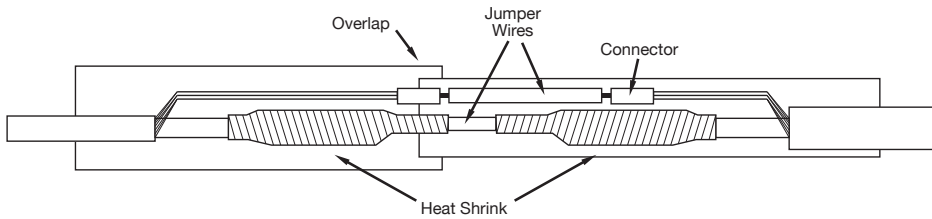

Figure 8
13. Position large shrink tube over entire splice area and shrink with heat gun. The shrink tubes must overlap at least 1" (25.40mm) of overlap on each side of the splice and 1" (25.40mm) in the middle for sealing purposes. (see Figure 8)